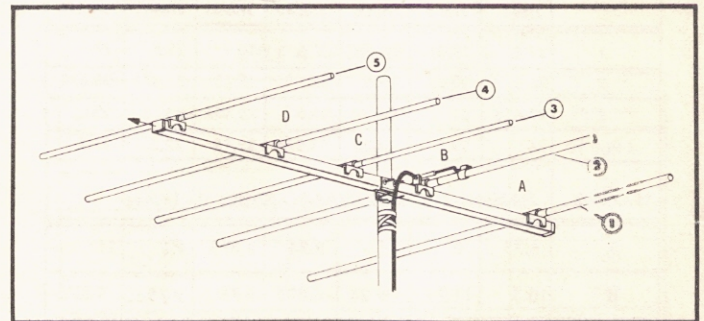

FIGURE 1 TYPICAL MOUNTING OF MODEL J55 - *
1. Consult Figures 1 and 2 and Tables 1 and 2, then assemble the elements onto the crossarm in their proper positions as denoted by their length and element number. DO NOT over-tighten the hex-bolts securing the elements.
TABLE 1—MODEL J55-* ELEMENTS (See Fig. 1)